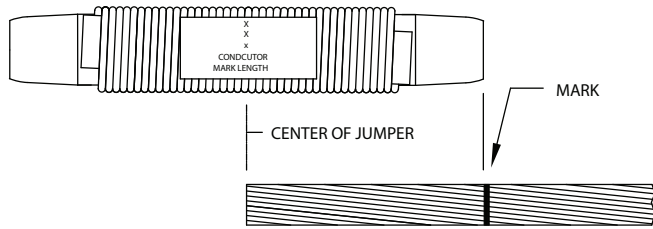

Fig. 1
1. Mark each conductor from label location (at center of Jumper) to end of barrel. See Fig. 1.